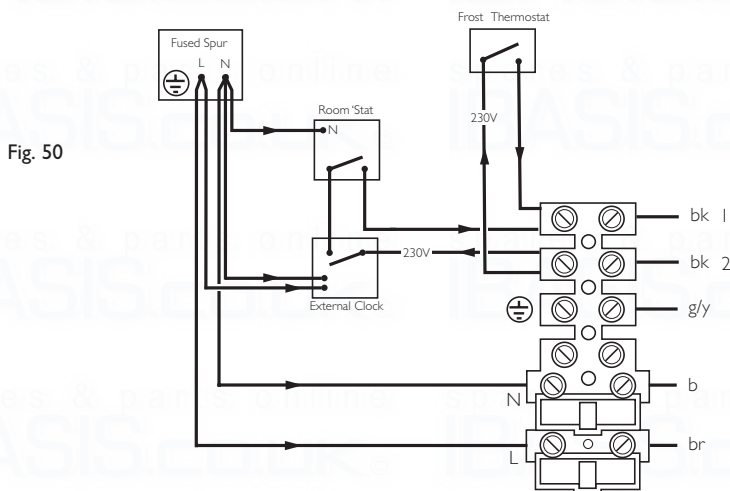

Fig. 50
6. Remove the link between terminals 1 & 2. The 230V supply at terminal 2 must be connected to the thermostat. The switched output from the thermostat must be connected to terminal 1. (Fig. 50). If the room thermostat being used incorporates an anticipator it **MUST** be wired as shown in Fig. 50.